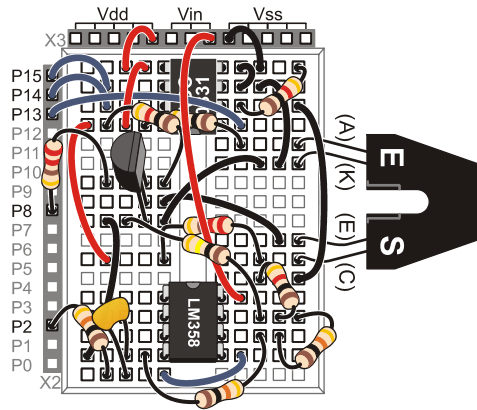

Figure 5-19
- (1) 4.7 kΩ Resistor
- (2) 1 kΩ Resistors
- √ Reconfigure the op-amp as shown in Figure 5-19. Set the 4.7 kΩ resistor aside for the moment.